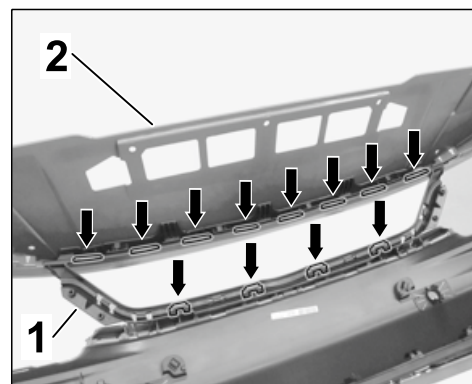

Figure 19
- 5.3 Clip centre grille (open)  $\Rightarrow$  *Figure 19-1* into the front apron  $\Rightarrow$  *Figure 19-2* ( $\Rightarrow$  *Figure 19* -arrows-).